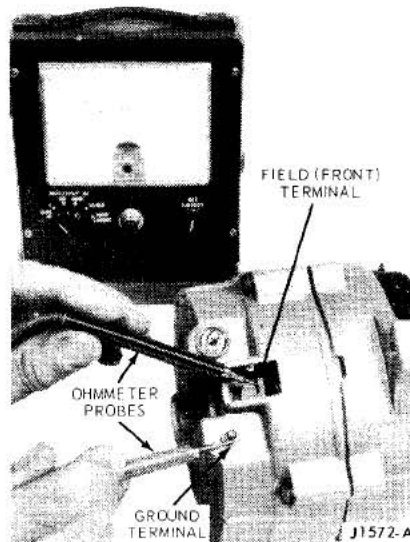

FIG. 6 Field Open or Short Circuit Test
1. Contact the alternator field terminal with one probe and the ground terminal with the other probe (Fig. 6). Then, spin the alternator pulley. The